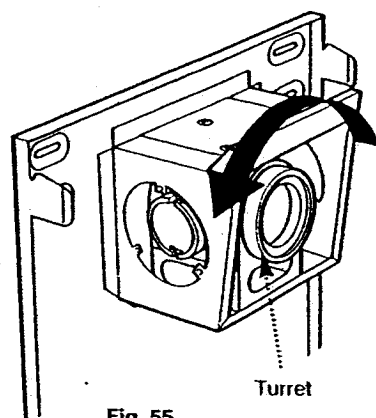
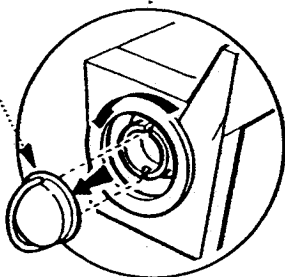

Fig. 55
Fig. 55a
2. Rotate the turret to face the selected opening (Fig. 55) and remove the side blanking cap by pushing in and turning anti-clockwise to release the bayonet fitting (Fig. 55a).